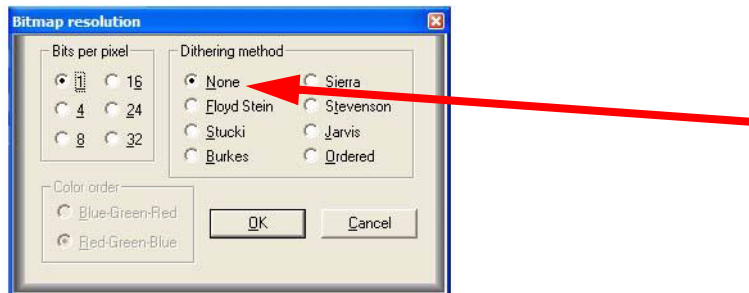

Figure 100
- 3 Working step-by-step, bring the settings down to **1** (bits per pixel) and **None** (Dithering method). Here's how to do it with the example shown in figure 100.